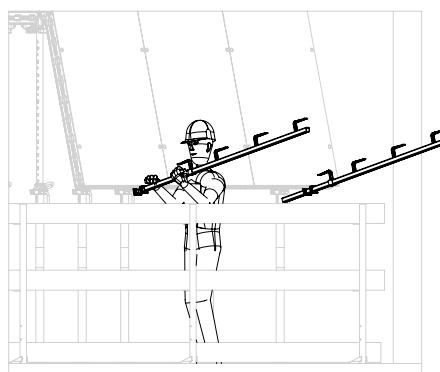
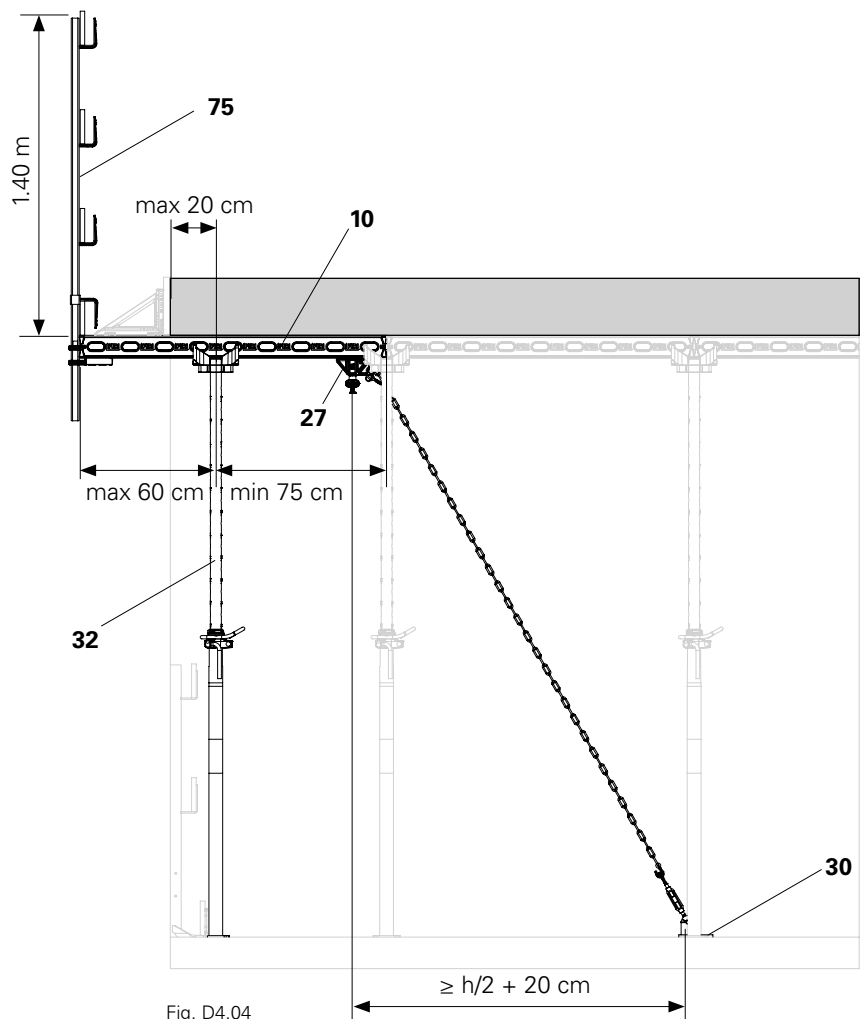

Fig. D4.03a
Fig. D4.04
The maximum cantilever is 60 cm, see Fig. D4.04.
3. Insert the SGP guardrail post (75) into the square opening of the DUO slab guardrail holder. (Fig. D4.03a + D4.03b)
4. Place the DUO shuttering aid beside the guardrail holder and push the DP panel up (10). Set the DP panel down on the DUO shuttering aid.
5. Support the cantilever using a slab prop with a DFH prophead (32). Position the slab prop outwards as far as possible. Note: The maximum permissible cantilever is 60 cm! (Fig. D4.04) Remove the shuttering aid.
1. Mount the base plate (30) as the lower tie point, e.g. with the PERI 14/20 x 130 anchor bolt. (Fig. D4.04)
2. Hook the chain on the bolt of the DUO brace connector (27).
4. Pre-tighten the chain with a turnbuckle. Permissible tension force 3 kN. (Fig. D4.04)
Brace the cantilever. (Fig. D4.04)